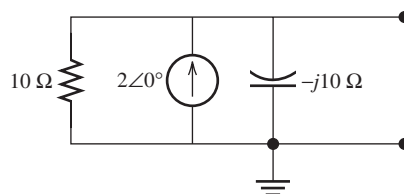

FIGURE P6.51 Circuit for Problem 6.51.
6.51 (A) Find the Thévenin equivalent circuits for the circuit shown in Figure P6.51.